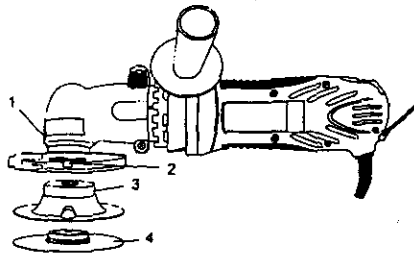

Fig. 27
1. Press angle grinder attachment locking button (1) and rotate spindle (2) until the lock engages the shaft (see Fig. 27).
3. Install backing flange (3) onto spindle by turning it clockwise.
4. Place appropriate sanding disc (4) on the face of the backing flange and lock into place by pressing the centre into the backing flange and turning it clockwise.